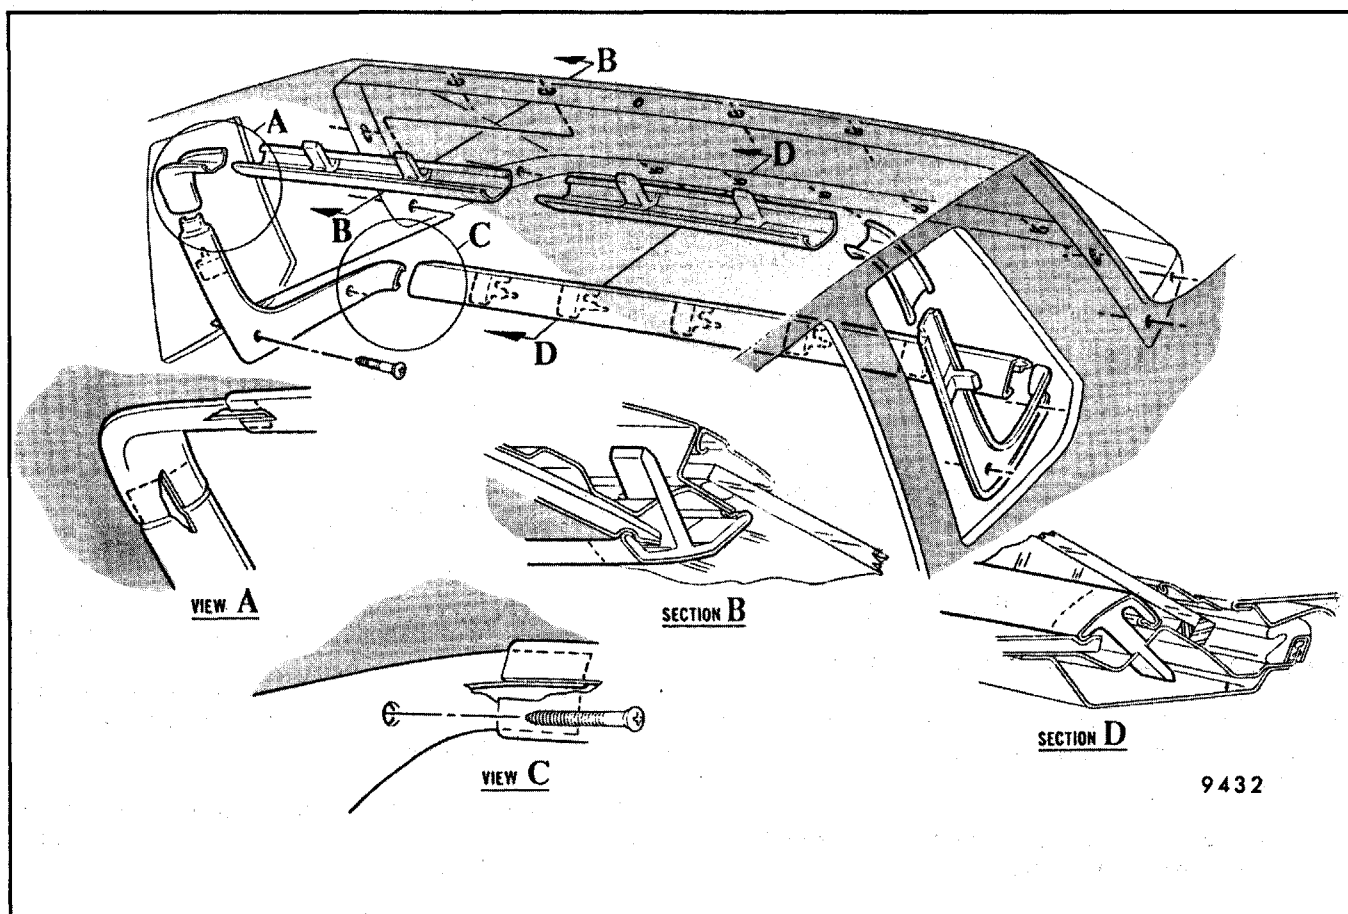

Fig. 8-20 - Back Window Garnish Moldings - "B,C" Styles
3. On "B,C" styles, insert a flat-bladed tool between headlining and molding at clip location and carefully pry clip loose from retaining slot (Fig. 8-20).